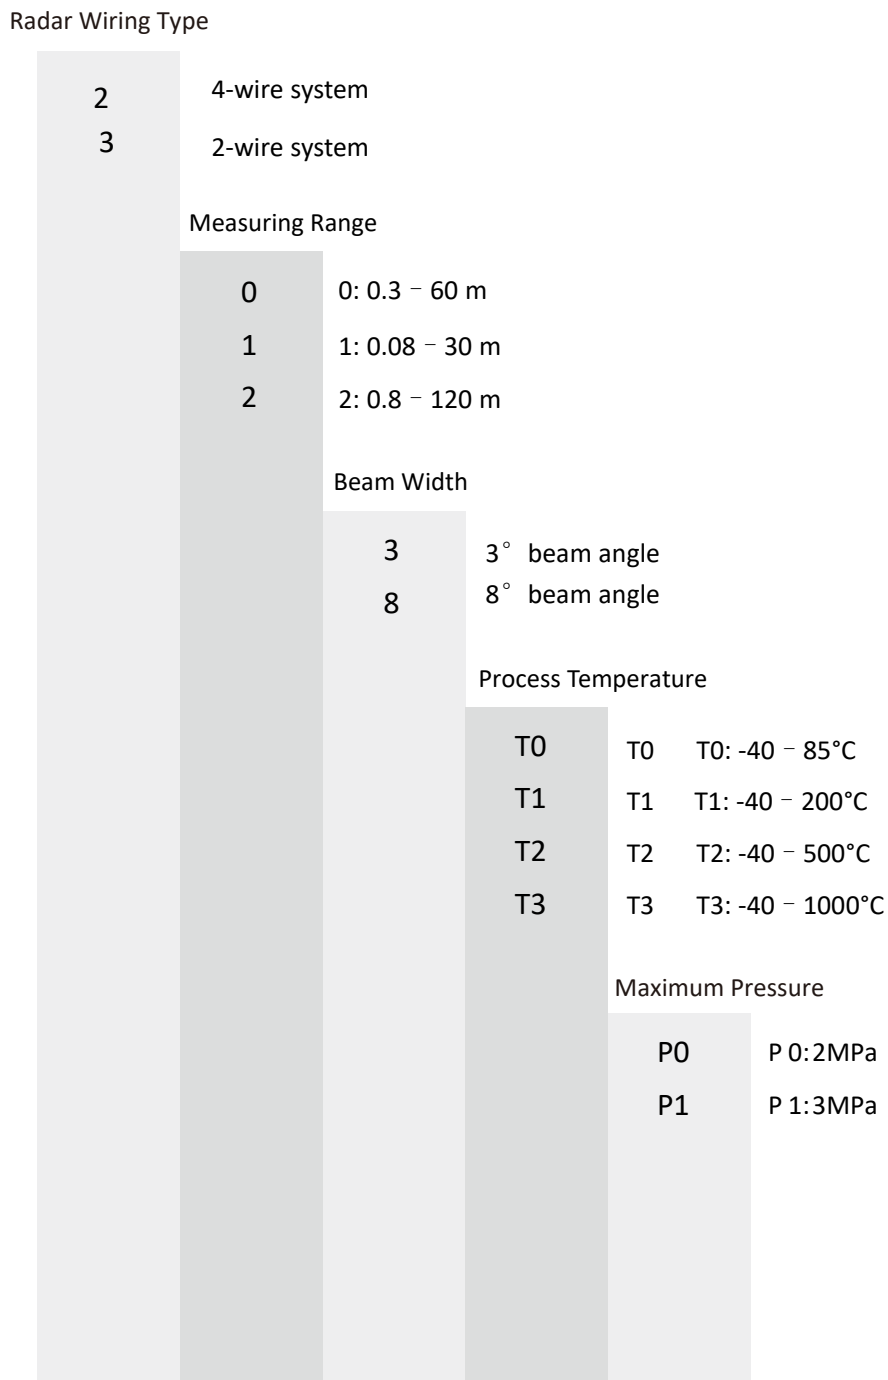

Figure 1-1 Selection Reference
- Version Number: Indicates the specific product model. The model definition is shown in Figure 1-1.